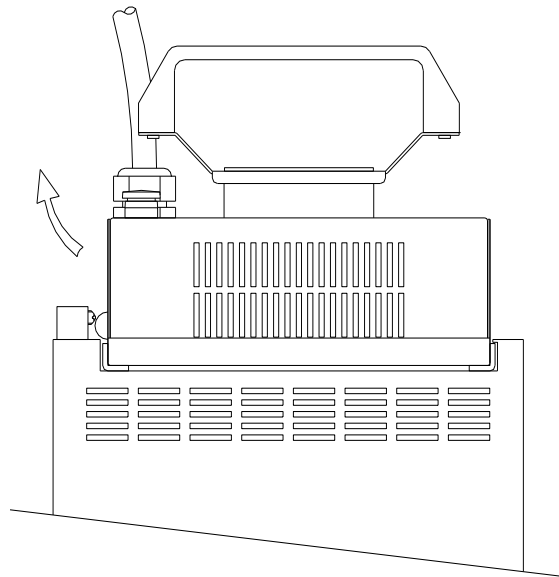

Fig. 11 Remove Irradiator from Docking Station
- Remove the Irradiator from the Docking Station; lift the Irradiator at the latch end first. Always hold the Irradiator facing downwards. Do not look directly at the UV lamp. See Fig. 11.